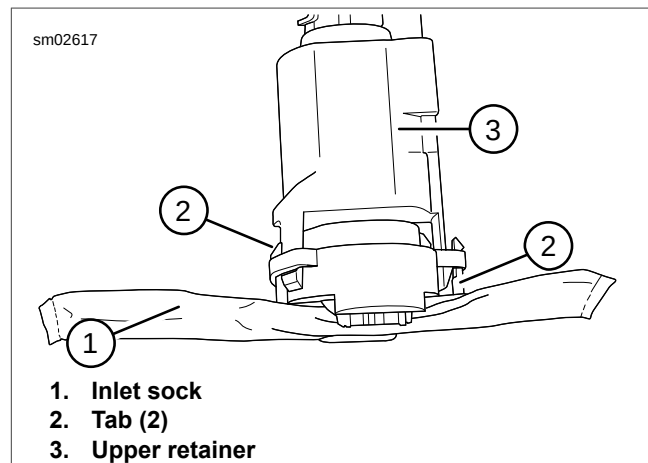

Figure 4-44. Fuel Sock
1. See Figure 4-44. Press tabs (2) securing inlet sock (1) to upper retainer (3).
3. See Figure 4-44. Install inlet sock (1) on upper retainer (3). Be sure tabs (2) engage slots in body.
3. See Figure 4-44. Remove fuel sock.
10. See Figure 4-44. Install fuel sock.